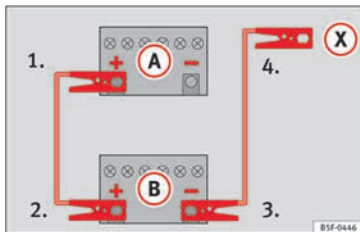

Fig. 67 Diagram of connections for vehicles without Start Stop system
2. Connect one end of the red jump lead to the positive (+) terminal of the vehicle with the flat battery (A) »» Fig. 67.
3. Connect the other end of the red jump lead to the positive terminal (+) in the vehicle providing assistance (B).
4. For vehicles without Start-Stop system: connect one end of the black jump lead to the negative terminal (-) of the vehicle providing the current (B) »» Fig. 67.